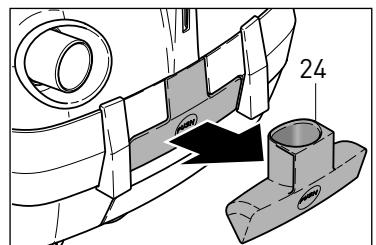
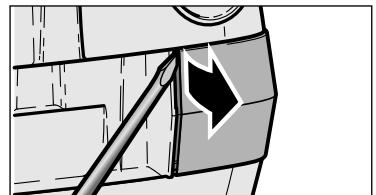

Figure 27
Figure 29
To remove the AIRBELT system (25 & 52), remove the upholstery tool from the rear of the machine (figure 27), and lever out the tool holder (51) using a slot-head screwdriver (figure 28). The AIRBELT system (25 & 52) can then be pried out of the recess with a screwdriver (figure 29) and removed by carefully sliding the assembly toward the front of the machine (figure 30). Remove the damaged textile (25) from the foam bumper (52).